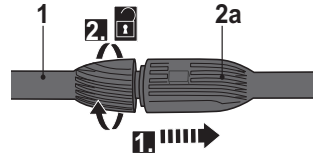

Fig. 6
> Press the pressure lance (1) onto the lance connection port (2a) (Fig. 6, step 1) and turn it anti-clockwise to remove it (Fig. 6, step 2).